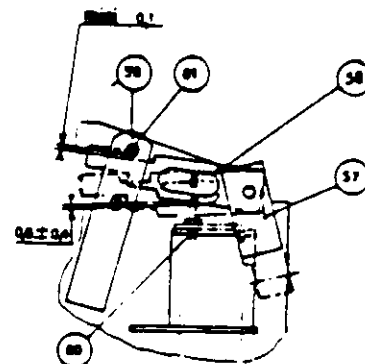

Fig. 23
Holding the striking pin (29) as illustrated in Fig. 23, apply rated voltage to the holding coil, placing release bar in unlatched position. Remove voltage and allow release bar to slowly withdraw observing
NOTE: In order to prevent blocking of the release bar from being reset when breaker opens, it is necessary to return release bar to its latched position by means of the hook illustrated in Fig. 23.
- C. Undervoltage lockout (Fig. 23). When the undervoltage release is provided with lockout to prevent breaker reclosing upon voltage restoration, the following adjustments should be made: Applying voltage to the relay allows lever (58) to come into contact with adjusting stop (60). Adjust stop (60) for a clearance of  $0.6 \pm 0.4$  mm ( $0.024 \pm 0.016$  inch).